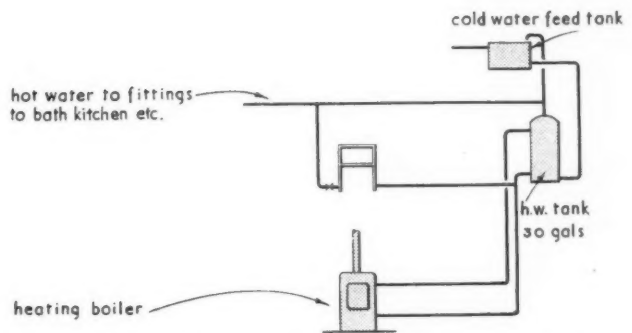

Fig. 24. Pipe layout for a hot water supply and bathroom towel rail only.
2. The simplest domestic boiler layout—(Fig. 24), arranged to give domestic hot water supplies and bathroom towel rail only. Note the towel rail should always be on the hot water circuit as it is required all the year through. In Fig. 25 the small boiler is